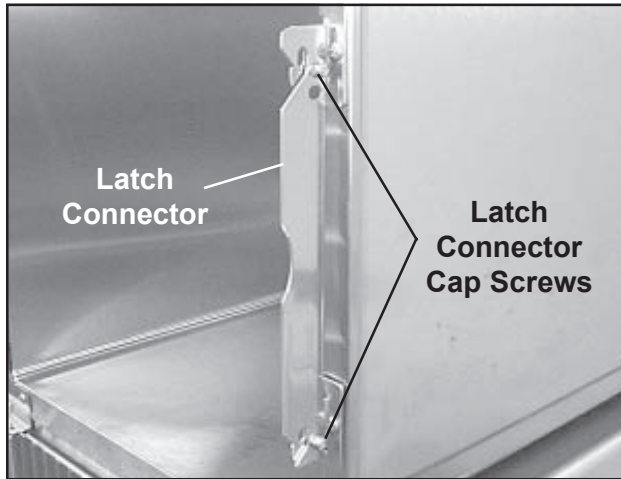

Figure 14. Removing the Latch Connector
2. With a Phillips screwdriver and a 7/16 in. wrench, remove the two cap screws and nuts that hold the latch connector to the L-brackets (Figure 14), and remove the latch connector.
3. Install the new latch connector to the two L-brackets and secure with the cap screws and nuts. Orient the latch connector as in Figures 14 and 15.
5. Install the latch connector to the two new L-brackets and secure with the cap screws and nuts. Orient the latch connector as in Figures 14 and 15.